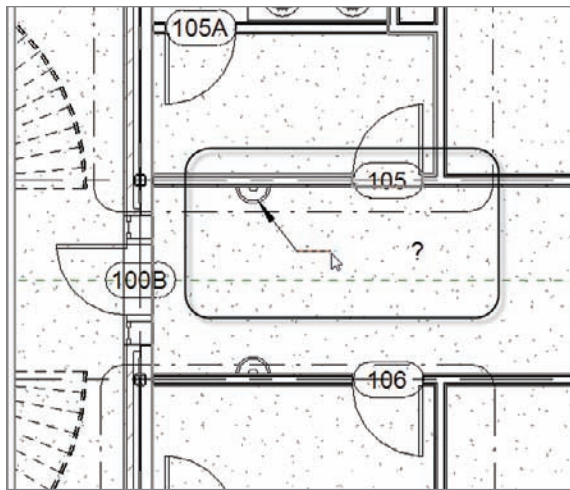

FIGURE 11.94 Placing the leadered keynote
5. Pick the wall sconce shown in Figure 11.94.
7. Pick a third point to place the keynote text (see Figure 11.94).